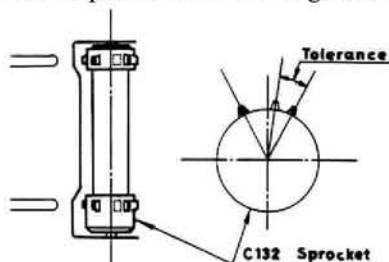

Fig. 8
- Winding mech. is in the cocked position, lightly push Sprocket toward the film aperture side to eliminate its play. Sprocket must be positioned in the range as shown in Fig. 8.
A pair of Sprocket teeth should be positioned between the symmetrical position with the center of Sprocket and slightly shifted toward Winding lever side. Refer to Fig. 8.